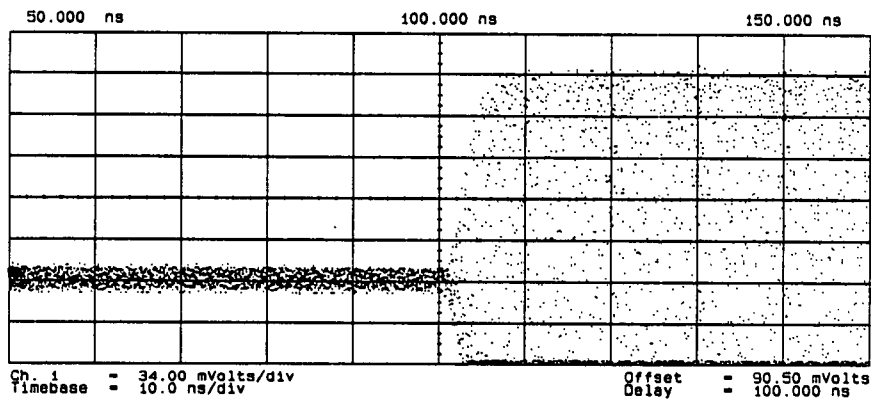

Figure 2-17. Signal Level between RF Power Off and On
- Adjust the channel 1 volts/division and offset to obtain a 5 division signal level between the RF power off and the RF power on (see figure 2-17.)